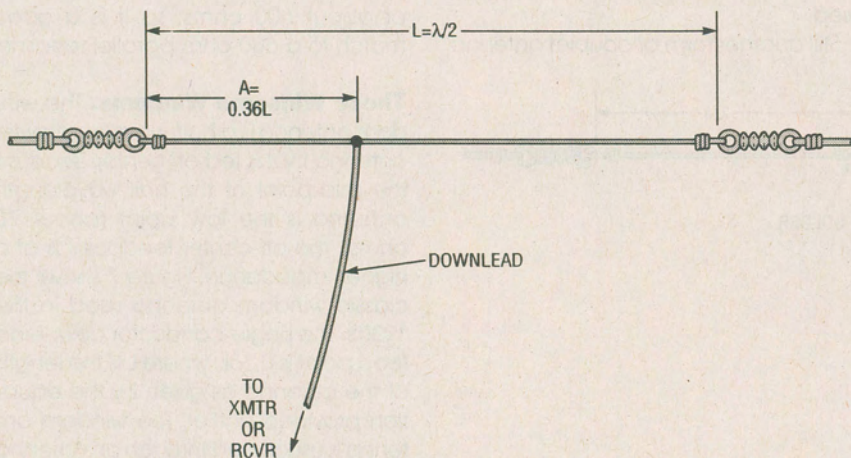

Fig. 7. The classic window antenna is a half-wavelength wire antenna that is fed off center. The design dates from the 1930's.
**Those Winsome Windoms.** The windom antenna is a half-wavelength wire antenna that is fed off-center. Because the mid-point of the half-wavelength antenna is the low point (about 70 ohms), the off-center feedpoint is at a higher impedance. Figure 7 shows the classic windom antenna used in the 1930's. The single-conductor downlead feed point is  $0.36L$ , where  $L$  is the length of the antenna as given by the equation provided earlier. The windom antenna is usually fed through an antenna coupler so that its impedance can be matched to the lower impedance of the transmitter or receiver.